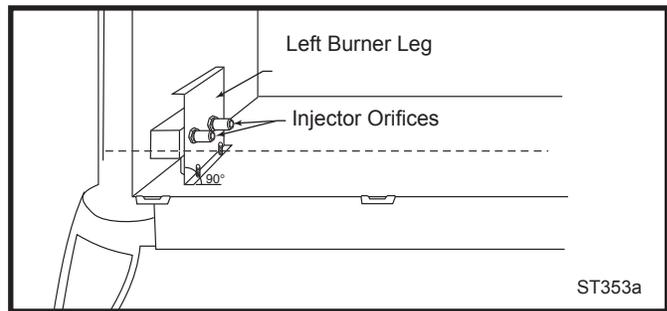

Fig. 36 Remove and replace injector orifices.
2. Swing open the swiveling latches at the top left and right corners of the glass frame. (Page 20, Fig. 36)
NOTE: It is very critical to keep the left burner leg, which holds the injectors, at a 90° angle to the base. (Fig. 36) This keeps the orifices aligned with the tubes inside burner. Failure to do so could affect the flame appearance and performance of the unit.